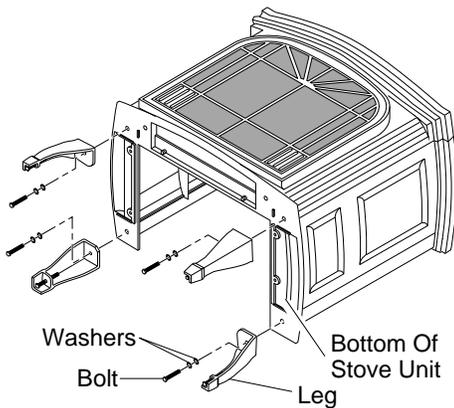

Figure 10 - Attaching Stove Legs
8. Fasten each leg to stove with four (4) M8 x 1.25 - 20mm bolts. Use a flat washer and lock washer with each bolt. Tighten bolts into threaded holes on stove body (see Figure 9 and Figure 10 on page 6). Use an adjustable wrench or a 12mm socket.